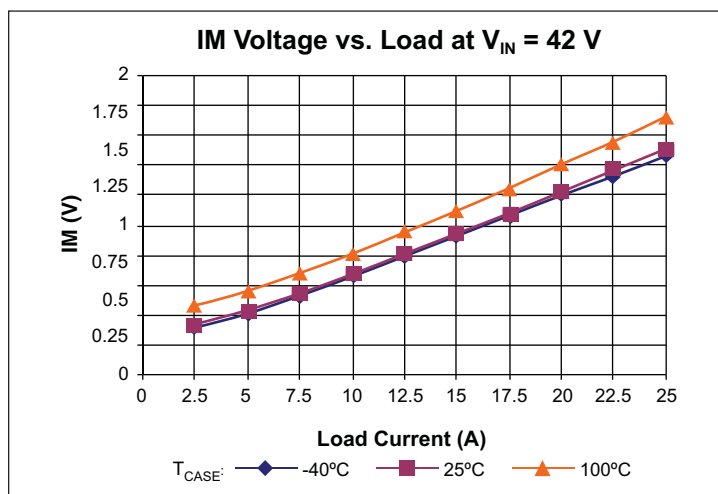

Figure 8 — IM voltage vs. load
Current Monitor (IM) pin provides a voltage proportional to the output current of the VTM module. The nominal voltage will vary between 0.36 V and 1.86 V over the output current range of the module (See Figures 8–10). The accuracy of the IM pin will be within 25% under all line and temperature conditions between 50% and 100% load.